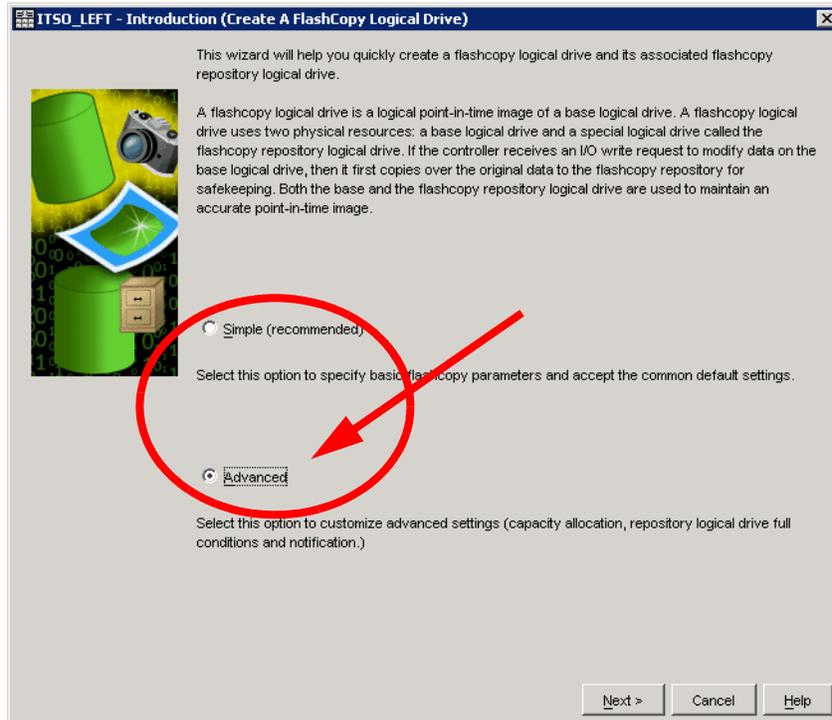

Figure 7-12 Create FlashCopy Logical Drive wizard: Advanced
3. If you chose the advanced path, select **Advanced** from the Create FC Logical Drive Wizard Introduction window (Figure 7-12) and click **Next**.